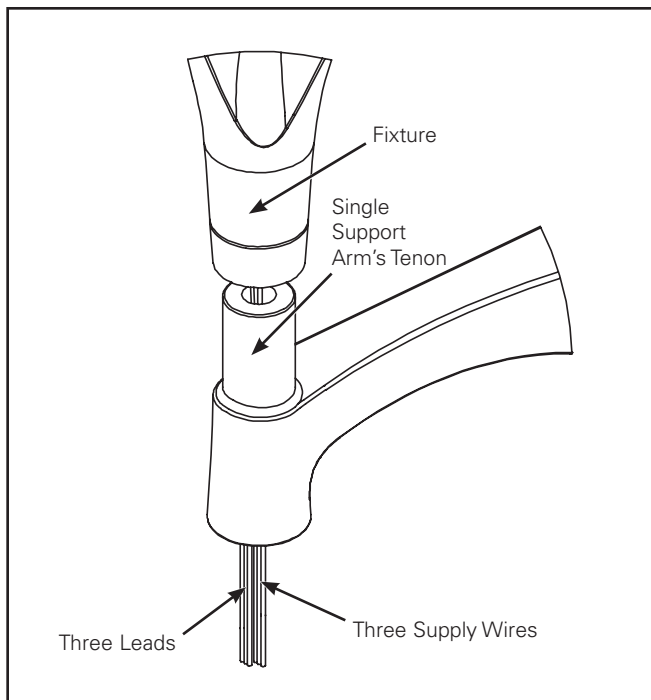

Figure 21.
8. Pull the leads from luminaire through the tenon and cap hole. (Figure 21.)